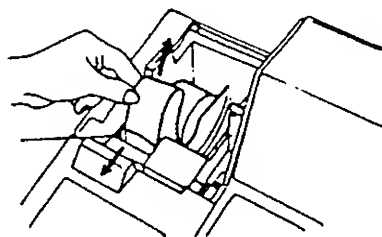

Fig. 6
2. Pull the Free Lever frontward while pulling the old paper core upward to remove the remaining receipt paper tail (Fig. 6).